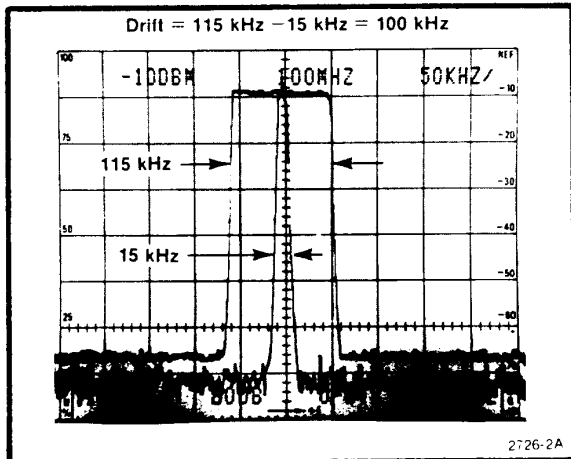

Fig. 3-11. Typical display of drift measurement without phaselock showing width of marker stored with MAX HOLD and beginning display of marker saved in A.
e. Check the signal stability or drift over the specified time period. If the instrument has Digital Storage, drift will appear as the width of the response less the resolution bandwidth (see Fig. 3-11) after specified time period.